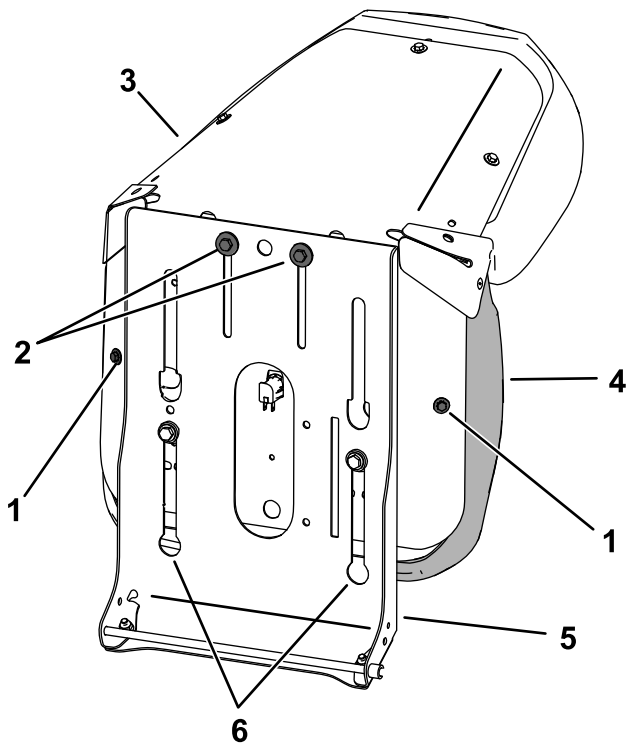

Figure 7
- A. Install the bottom cushion to the seat assembly using 2 flange-hex bolts (Figure 7).
- C. Secure the seat to the seat pan using 2 hex bolts and 2 washers (Figure 7).